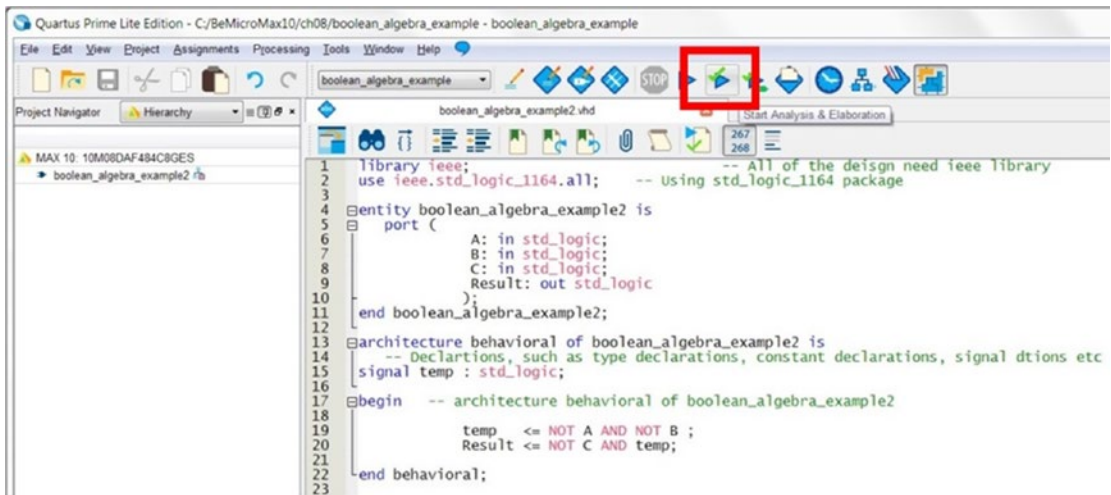
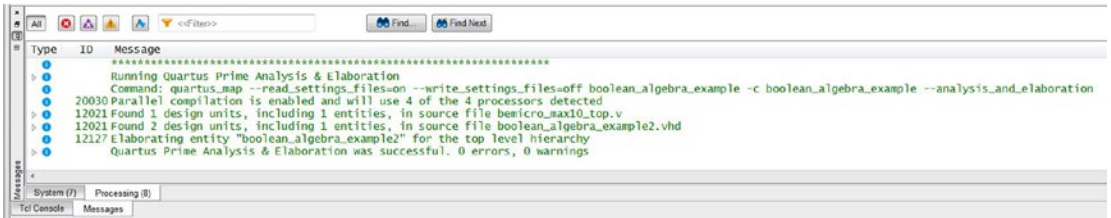

Figure 8-7. Start Analysis & Elaboration button
Figure 8-8. Message after Start Analysis & Elaboration finished
6. Click **Processing** ► **Start** ► **Start Analysis & Elaboration** from the Quartus Prime menu or click the blue triangle with green tick box in the toolbar to start analysis & elaboration (Figure 8-7). It will not have any warnings or errors in the message pane (Figure 8-8).